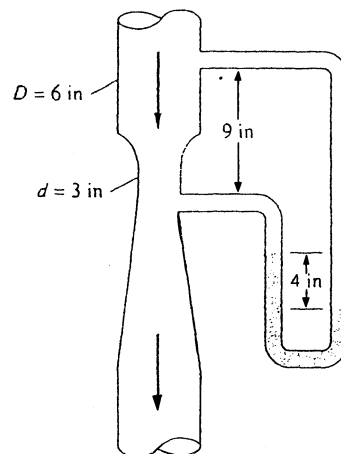

Fig. P6.156
6.156 Ethanol at 20°C flows down through a modern venturi nozzle as in Fig. P6.156. If the mercury manometer reading is 4 in, as shown, estimate the flow rate, in gal/min.